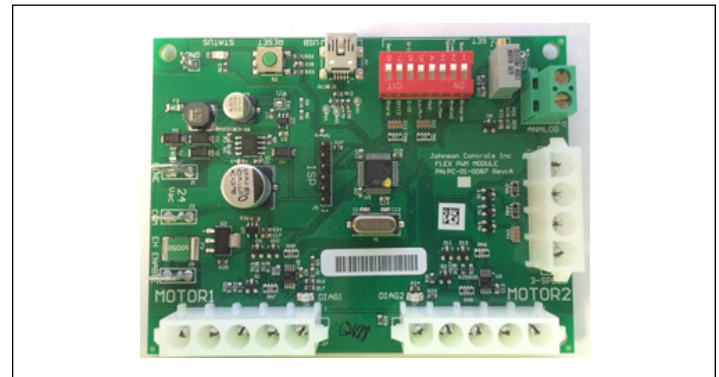

Figure 43 – G3 PWM Board
- a. Locate the G3 PWM board within the control enclosure (See Figure 43).